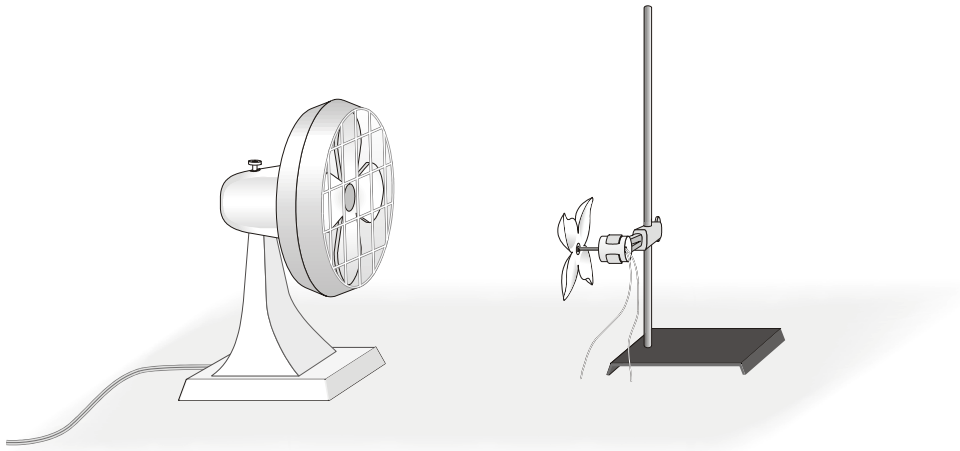

Figure 1
3. Put the propeller shaft adapter on the shaft of the motor. Insert the propeller shaft adapter into the end of the straw. You may wish to use a plastic tubing clamp to secure the straw to the shaft. Secure the motor to the ring stand using a utility clamp as shown in Figure 1.